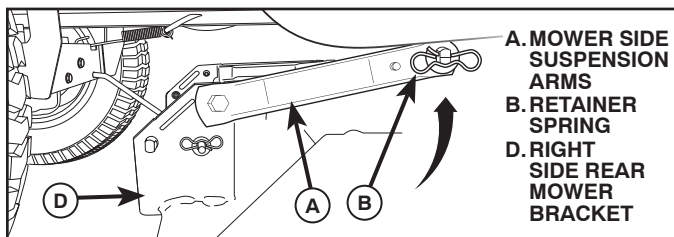

Fig. 8
6. ATTACH MOWER SIDE SUSPENSION ARMS (A) TO CHASSIS (See Fig. 8)
- Position front hole in side suspension arm (A) over pin on outside of tractor chassis and secure with large washer and large retainer spring (B).